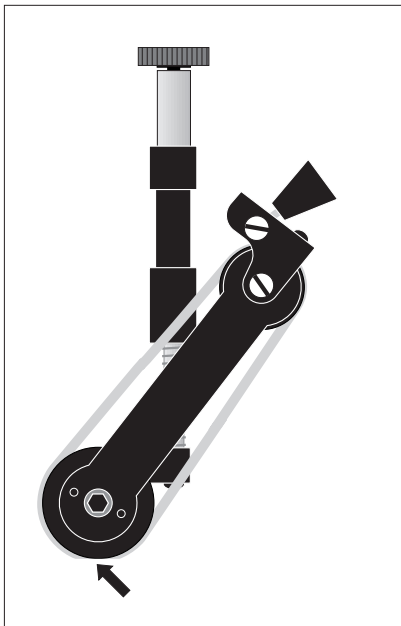

Figure 28. Advancing O-Ring Gate
- Advancing O-ring, or standard O-ring: Evidence of flat areas along the O-rings (Figures 28 and 29, respectively).